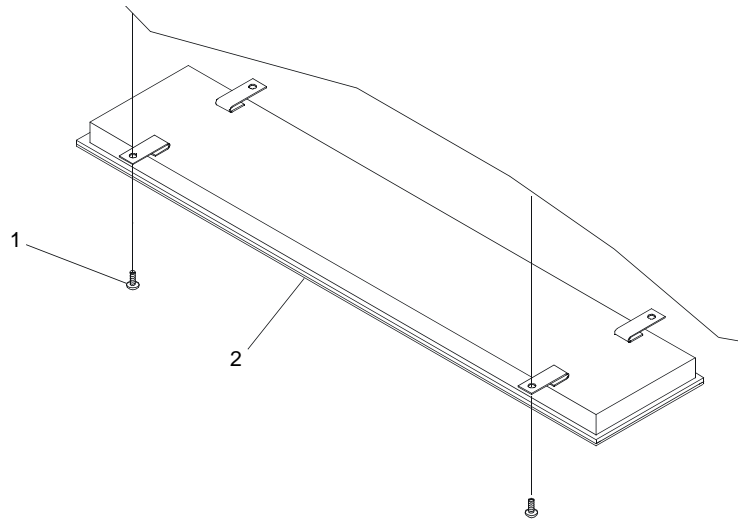

Figure 3. Fixture Mounting
8. Remove four screws (figure 3, item 1) securing fixture base (figure 3, item 2) to ceiling. Discard light fixture.
9. Position and install four screws (figure 3, item 1) to secure new fixture base (figure 3, item 2) to ceiling.